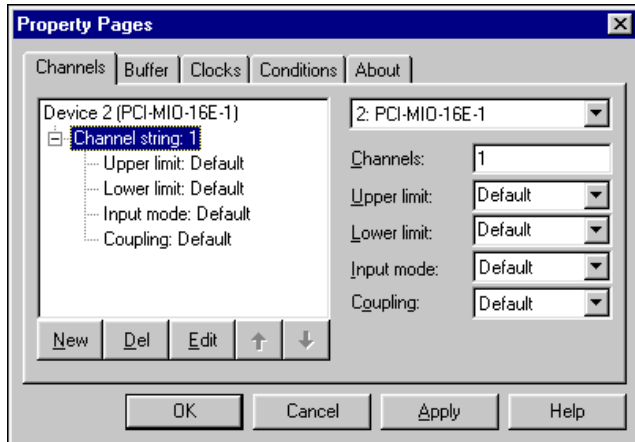

Figure 3-6. Configure Analog Input Channels
4. Type 1 or the channel you want to read in **Channels**. Figure 3-6 shows how your Channels property page might look.